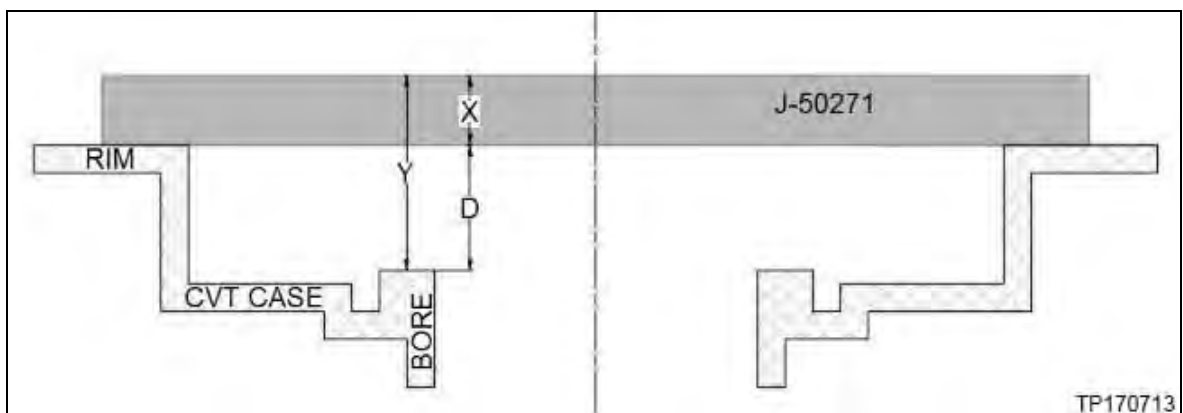

Figure 5M
**NOTE:** Only if a Gauge Block (J-50271) is not available, measurement "X" (Figure 5M, page 55) will need to be determined for the measuring bar being used. This can be done either with a set of calipers or with Digital Depth Gauge (J-50272).
8. Measure the average distance (Y) shown in Figure 5M as follows: